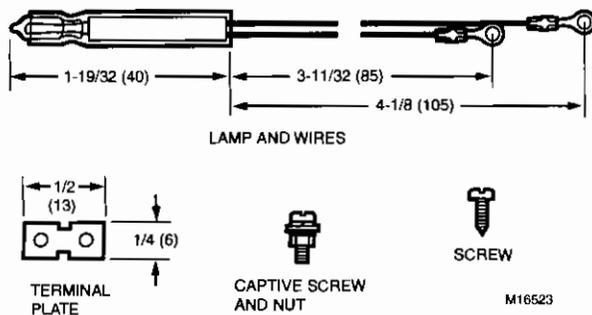
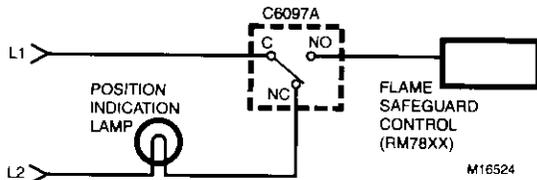

Fig. 3. 32003039-001 Position Indication Lamp Kit.
Fig. 5. Wiring the Position Indicator Lamp Kit in the C6097A.
6. Using Fig. 5 or 6 for reference, fasten the terminal lug on the longer lamp wire to either the normally open (NO) or normally closed (NC) terminal of the C6097.
The Position Indicator Lamp will light when the C6097 Pressure Switch opens and provides power to the lamp (see Fig. 5 or 6). An option alarm circuit can also be connected as shown in the same figures.
Make sure that all wiring agrees with all applicable local codes, ordinances and regulations. An opening is provided to accommodate rigid conduit or armored cable for line voltage operation (see Fig. 3 and 4). Do not overload the switch contacts (see Switch Ratings in the Specifications section). The switching schematic is shown in Fig. 5.
To adjust the pressure setting, turn the setpoint adjustment dial (Fig. 3, 4 and 5) clockwise  to increase the pressure setting and counterclockwise  to decrease the pressure setting.